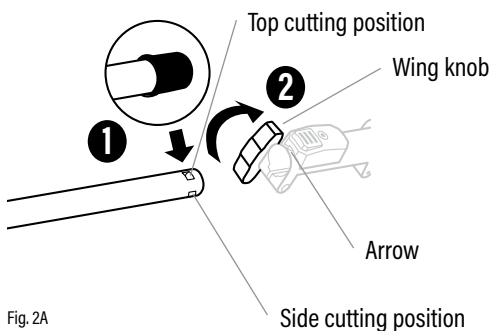

Fig. 2A
1. Remove the tube protection cap before installation. (Fig. 2A, 1)
2. The hedge trimmer can be attached in either the top cutting position or the side cutting position. Choose the suitable position for the task. (Fig. 2A)
3. Loosen the wing knob. (Fig. 2A, 2)